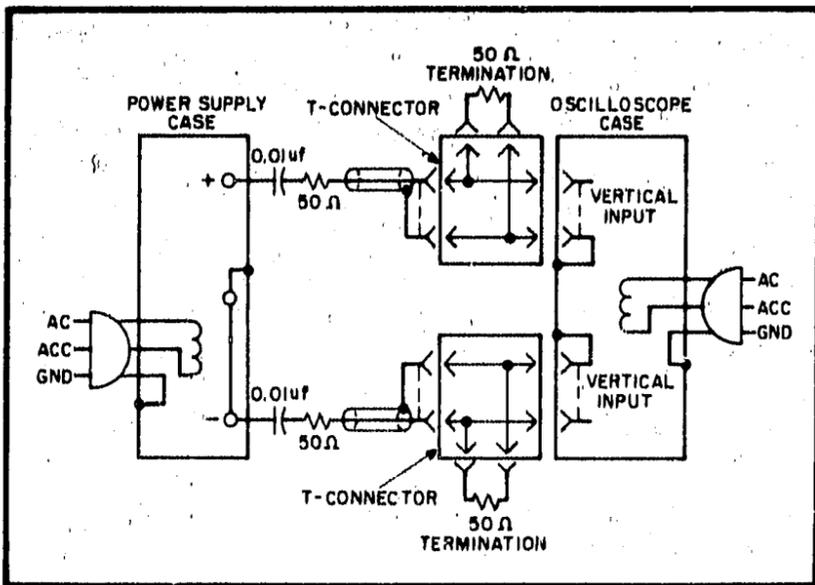

Figure 5-7. Noise Spike Test Setup
- As shown in Figure 5-7, two coax
5-34 The circuit of Figure 5-7 can also be used for the normal measurement of low frequency ripple and noise; simply remove the four terminating resistors and the blocking capacitors and substitute a higher gain vertical plug-in in place of the wide-band plug-in required for spike measurements. Notice that with these changes, Figure 5-7 becomes a two-cable version of Figure 5-6B.